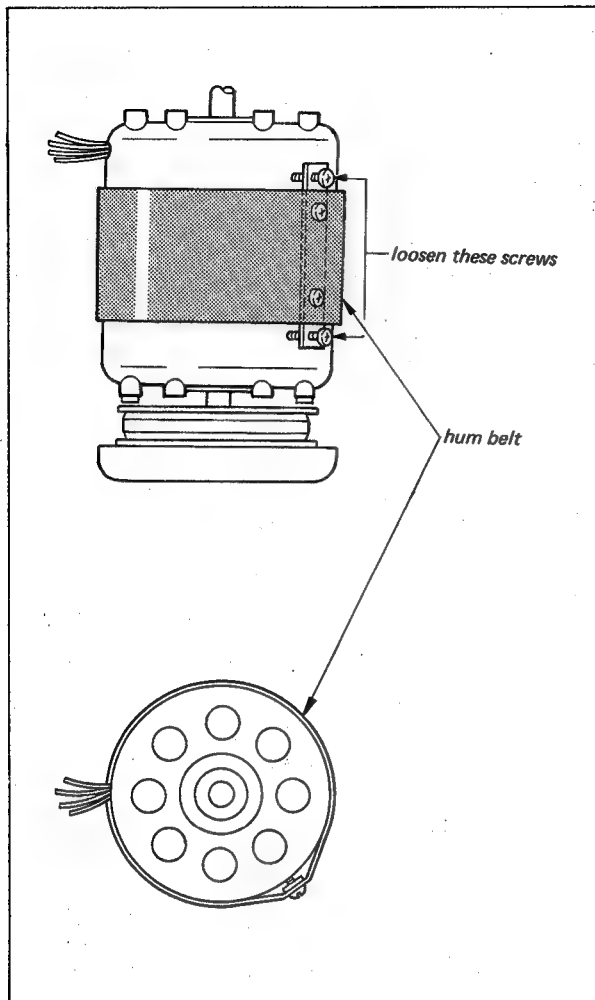

Fig. 4-22. Hum belt replacement
6. Install the hum belt on the new motor. Position the mounting screws as shown in Fig. 4-22. Make sure that the hum belt straddles the two end bells equally.